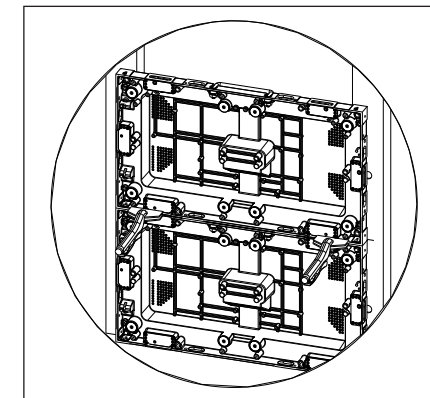

Figure 9: Clamp Panels Together
4. Clamp the panels together. Refer to **Figure 9**.